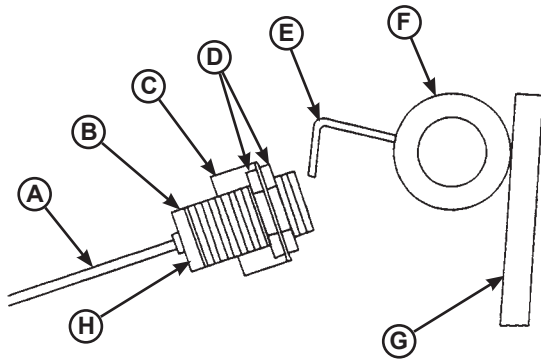

Figure 27
The ARTD uses a proximity switch (B) located under the platform and a piece of angled steel called the target (E) that is attached to the lip hinge tube (F). See **Figure 27**.